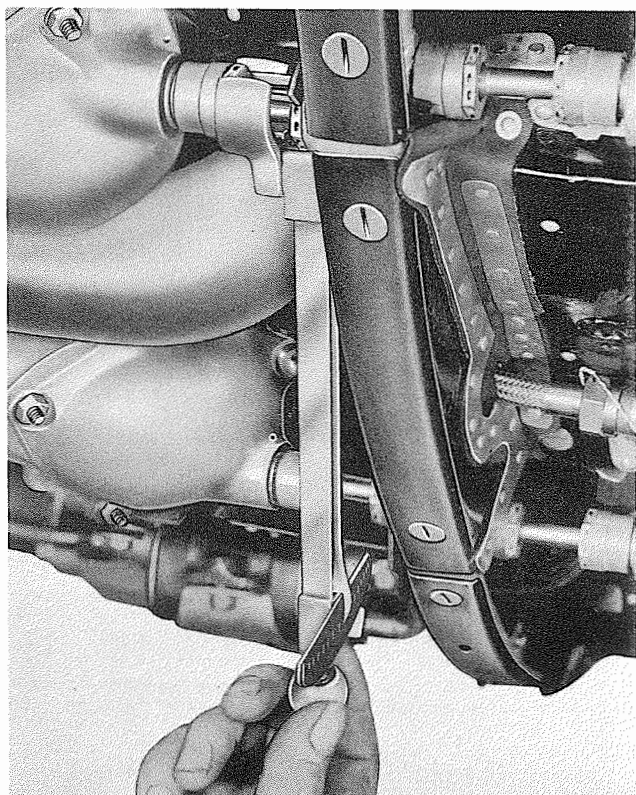

Figure 7-27. Torquing Rocker Box to Drain Manifold Tube Gland Nut
c. Install the rocker box cover gasket on the rocker box. Insert the tube in the rocker box cover boss as far as it will go. Install the cover and tube assembly on the cylinder and slide the tube into the manifold. Install the rocker box cover lock washers and nuts. Tighten to 80 - 85 inch-pounds. Torque the tube gland nuts to 40 - 45 inch-pounds using wrench 807112. See figure 7-27. Lockwire.